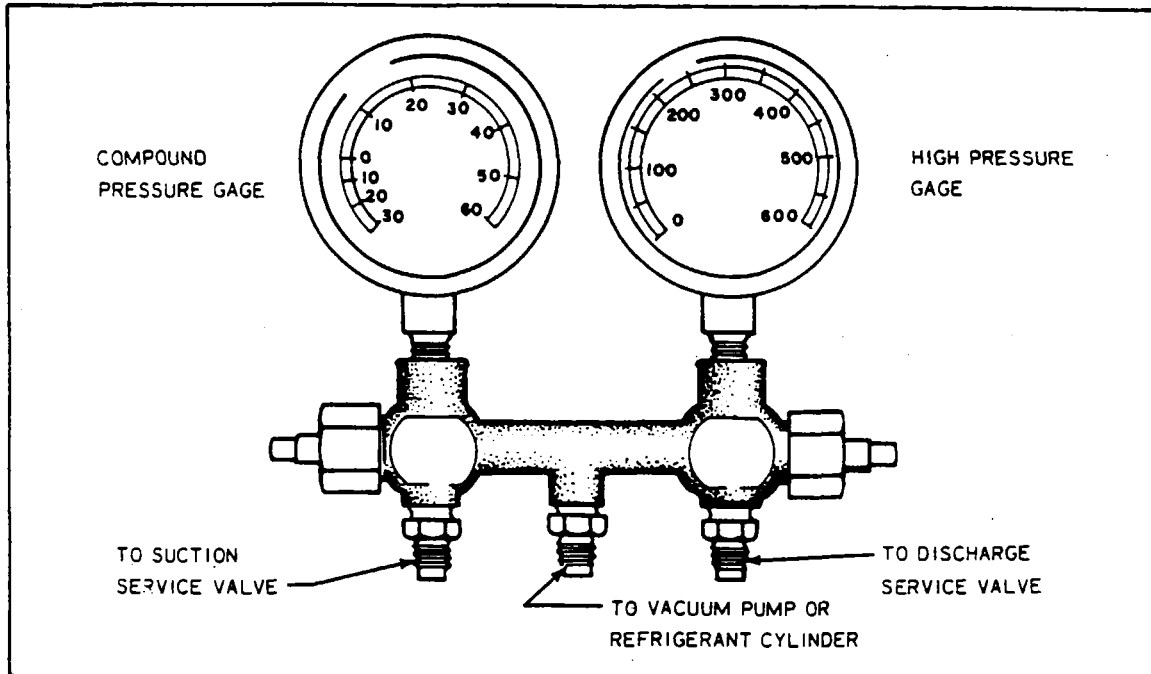

Figure 14-3. Test Gauge and Manifold Set
14-8. TEST GAUGE AND MANIFOLD SET. The proper testing and diagnosis of the air conditioning system require that a manifold gauge set be attached into the system. This set consists of two gauges mounted to a manifold. One gauge is a high pressure gauge used in the discharge side of the system. The other is a low pressure gauge used in the suction side of the system. The manifold is a device having fittings for both gauges and connection hoses with provisions for controlling the flow of refrigerant through the manifold. See Figures 14-3 and 14-4.
Cracking the hand valve, in the counterclockwise direction, opens the system to the middle service port of the manifold set. This is desirable only when it is necessary to let refrigerant out or into the system. Refer to Figures 14-3 and 14-4.
- c. The high and low manifold hand valves should be in the closed position. (Refer to Figures 14-3 and 14-4.)